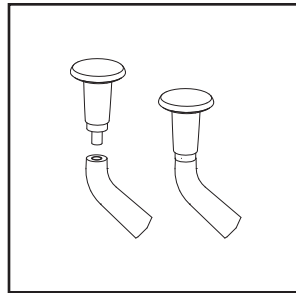

Figure 2
5. Close the hinged mechanism and attach glides and/or casters to the bases. See illustrations (Figures 2 or 3) and follow the guidelines.
Insert and tighten all four casters using $\frac{3}{4}$ " open end wrench. The two locking casters are to be toward the front edge of the table (Figure 2).